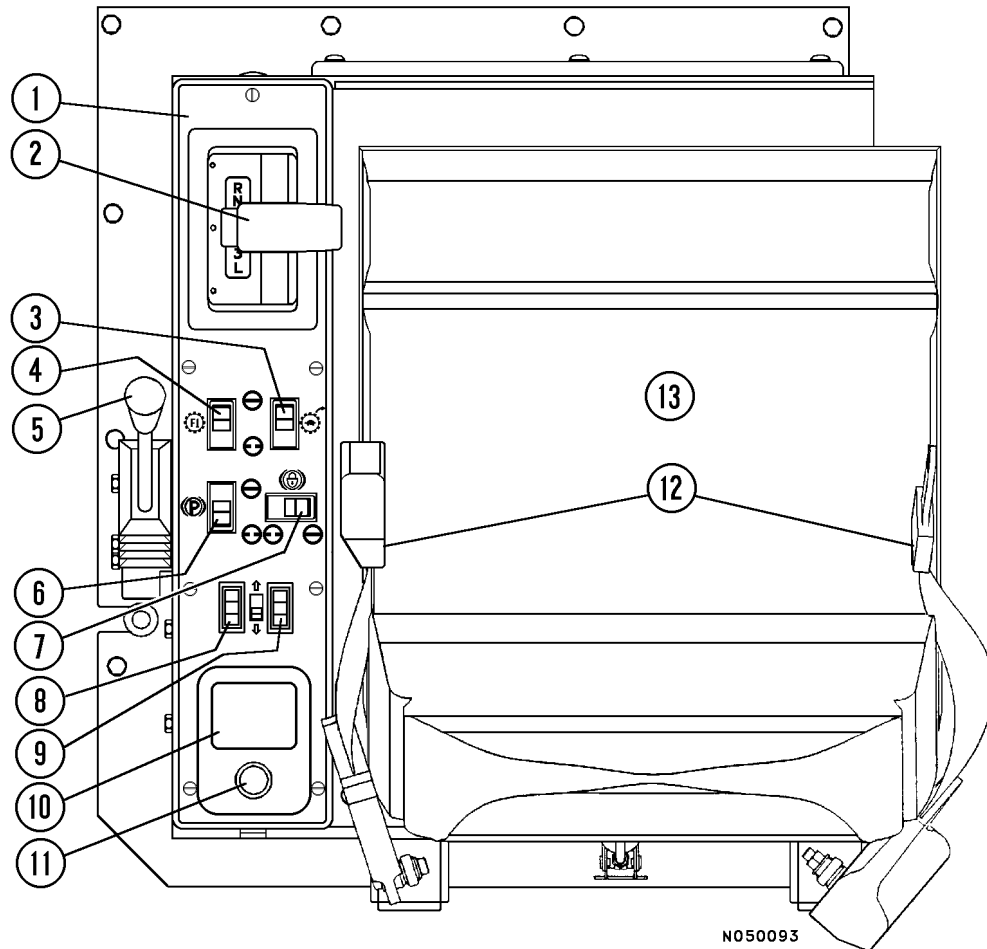

FIGURE 3-7. CENTER CONSOLE
The Center Console (1, Figure 3-7) located to the right of the operator seat, is a housing structure which provides a mounting surface for certain operator controls and a passenger seat.
Transmission Range Selector (2, Figure 3-7)
Control Switches (3, 4, 6, & 7, Figure 3-7)
Shift Limiter Switch (3, Figure 3-7)
F1 Start Switch (4, Figure 3-7)
Hoist Control Lever (5, Figure 3-7)
Parking Brake Switch (6, Figure 3-7)
Brake Lock Switch (7, Figure 3-7)
L.H. Window Control Switch (8, Figure 3-7)
R.H. Window Control Switch (9, Figure 3-7)
Ash Tray (10, Figure 3-7)
Lighter (11, Figure 3-7)
Passenger Seat w/Safety Belt (12 & 13, Figure 3-7)